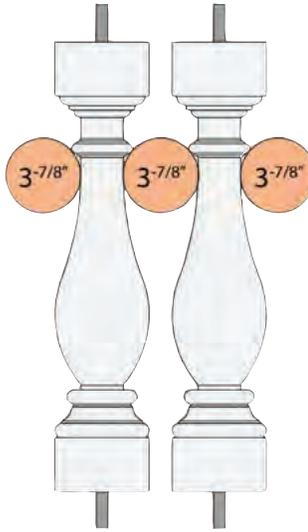

Figure 2
3. Calculate Number of Spindles Needed for Each Section (Figure 2)